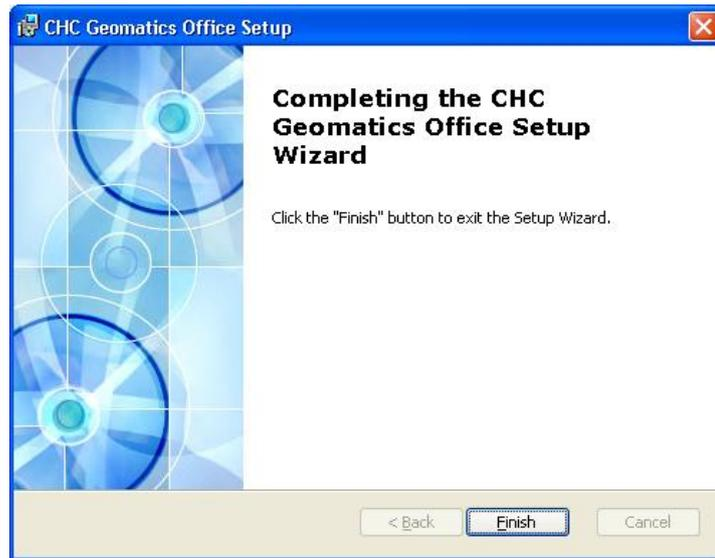

Figure10-4 Installation Finish
- Click **Install** to start Installation, the Figure10-4 dialog will show up when the installation finishes: